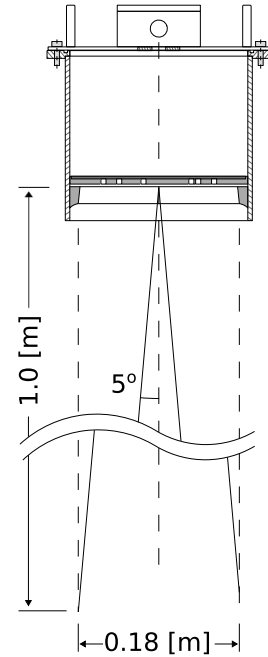

Figure 1.1: The 5 [deg] half top angle of the F08 antenna beam.
- It is advised to choose a mounting position such that the WaveGuide sensor beam is free of large reflecting obstacles (the beam of the F08 antenna has a 5 [deg] half top angle as shown in Fig. 1.1). Hence, the minimum horizontal distance between the sensor and any obstacle in the beam's path should be at least 10% of the vertical distance between the sensor and the obstacle. This does not only include horizontal objects in the beams path but also vertical structures.